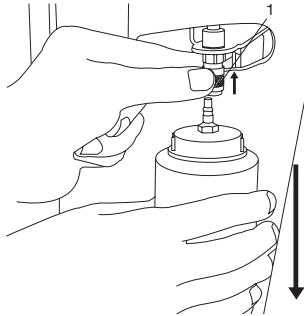

Fig. 8: Removing used oil bottle
❶ To remove the used oil bottle, pull the connection (Fig. 8) upwards slightly and detach the bottle downwards.